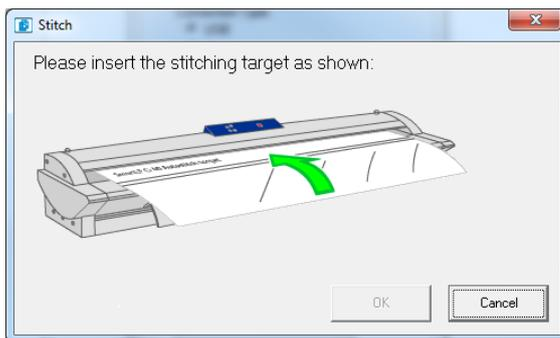

Fig 1-14
4. Next, click [Stitch] and follow the onscreen instructions (Fig 1-14). Close the window when complete.